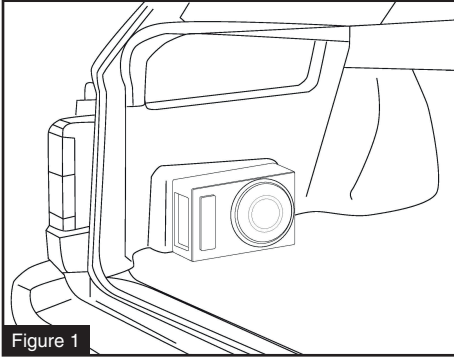

Figure 1
2. Decide the best location possible that suits your automobile and space available. The best and most secure location for optimum sound quality is behind the rear seats, in the trunk floor (see Figure 1 ).